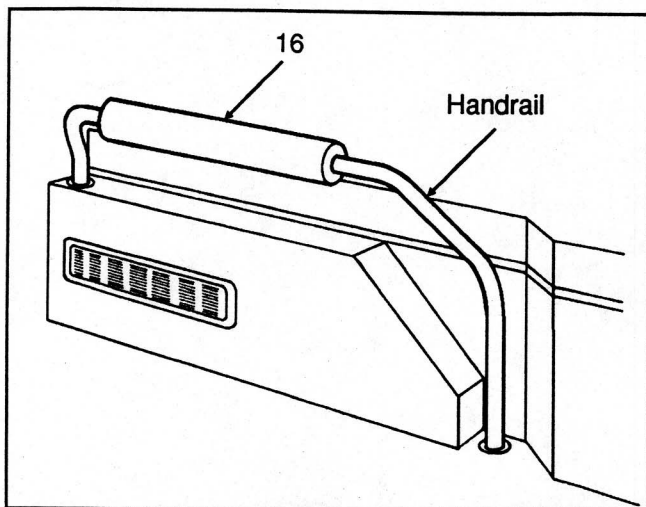

Figure 2
22. Place cushioned trim (16) on handrail in front of the seat. See figure 2.